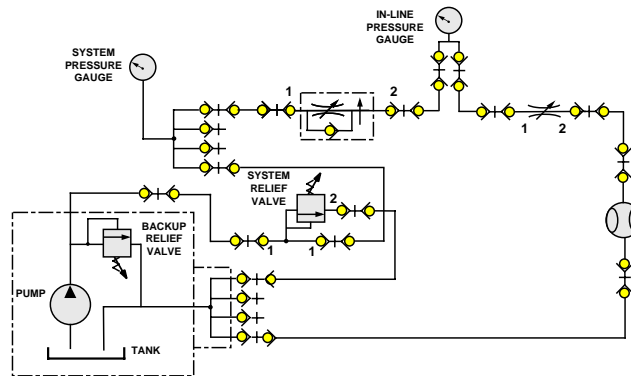

Fig. 3.6.22 Hydraulic Circuit
1. Build the circuit shown in Figure 3.6.22.